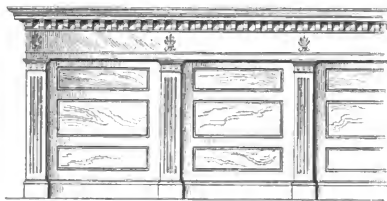
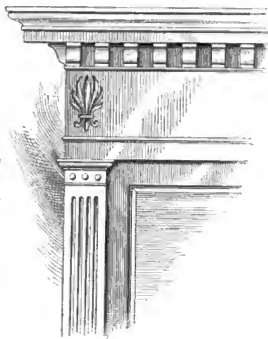

Fig. 1.—General Elevation of Counter.
Fig. 2.—Enlarged View of Corner, showing Detail of Ornamentation.
G. B." of Southport, N. C. The counter can be made of any desired length and of any material, and in my opinion it would be suitable for any kind of a store. The shelving can be placed beneath the counter to suit the person for whom it is to be made. Fig. 1 shows a general elevation of the counter while Fig. 2 is an enlarged view of the corner showing detail of ornamentation. There is probably no part of the counter except the ornamentation shown on the frieze which could not be worked out by any good mechanic, and the ornament is in fact of small account, although it tends to somewhat relieve the monotony of the extended surface.
may be correct and may be satisfactory to "Learner" and perhaps to other readers of the paper, but I venture to say that not one carpenter in a thousand will be able to comprehend the methods presented, or to lay out the work by them. I would like, therefore, to offer my method for doing such work, and which, by the way, is fully illustrated and explained in "Progressive Carpentry," and from which every kind of frame work can be fitted perfectly, whatever may be its form and position. Referring to the sketches, make a section of the purlin full size and the exact shape and position it is to be placed, as shown in Fig. 1. Draw a vertical line, E F, touching the corner of the top and face at A. Now square across the top of the face of the purlin, near the end; take the distance from E to B of Fig. 1 and set it off on the back corner on the top E B of Fig. 2. Mark A B in Fig. 2. Then take the distance F C of Fig. 1 and set it off on the bottom corner of the face, Fig. 2, and mark A C. Cut to the marks A B and A C of Fig. 2. If it is desired to mark the other two sides of the purlin, use the same bevels—the face bevel for the back and the top bevel for the bottom, and cut by the dotted lines to D of Fig. 2.